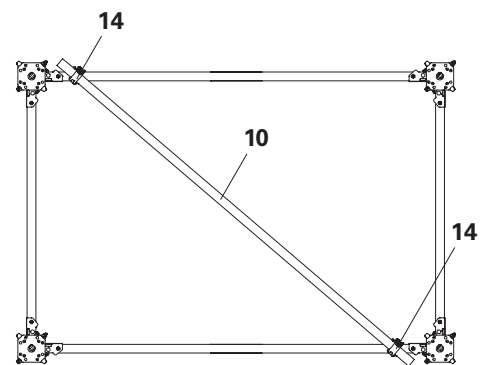

Fig. A3.05
- With larger units, the upper MULTIPROPS MP (1) can be inserted individually. Connect the MULTIPROPS MP (1) to each other before connecting to the Frames MP MRK (2).
- For towers with heights >7.0 m, connect a Scaff. Tube Ø48.3x3.2 mm (10) as a horizontal brace at half the tower height to the Frames MP MRK (2) using Swivel Couplers AF Ø48/48 mm (14) to ensure that the cross-sectional shape is maintained. (Fig. A3.05)
1. Brace the tower in the centre with a horizontal brace, see Fig. A3.05.